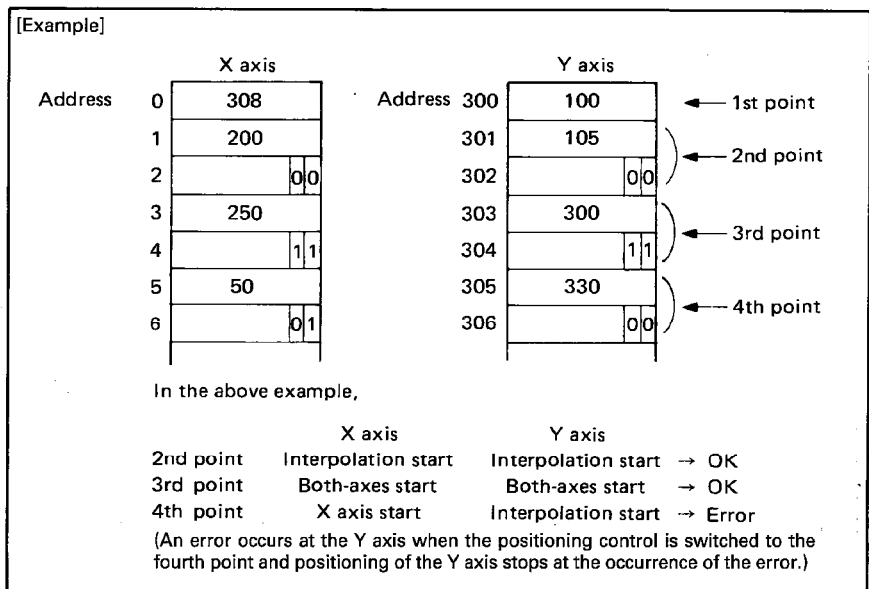

Fig. 2.31 Start Data Example 1
- 1) When both axes are to be started together (i.e. interpolation setting 00 or independent setting 11) ensure that the start axis data matches for both X and Y axes at that point. Processing will stop if the data does not match. Refer to Fig. 2.31.